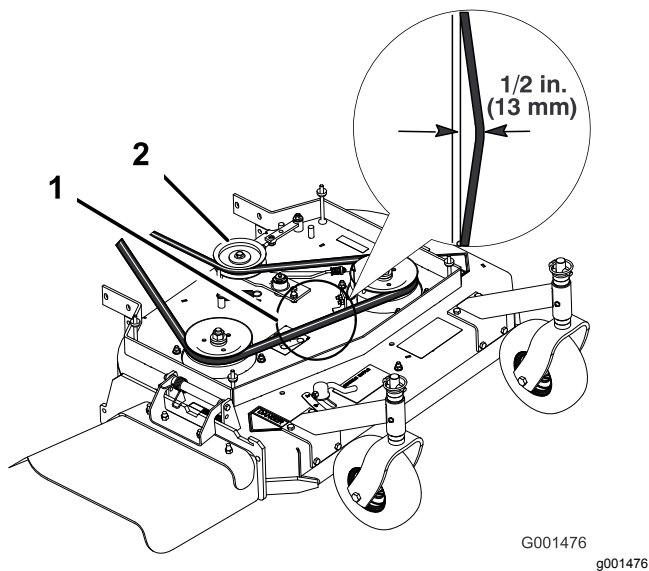

Figure 41
Note: The proper mower belt tension is 44 to 67 N·m (10 to 15 ft·lb) with the belt deflected 13 mm (1/2 inch) halfway between the pulleys (Figure 41).
3. Loosen the locknut on the turnbuckle (Figure 41).
- Rotate the turnbuckle toward the front of the machine to decrease the tension on the belt (Figure 41).
Note: The proper mower belt tension is 44 to 67 N·m (10 to 15 ft-lb) with the belt deflected 13 mm (1/2 inch) halfway between the pulleys (Figure 41).